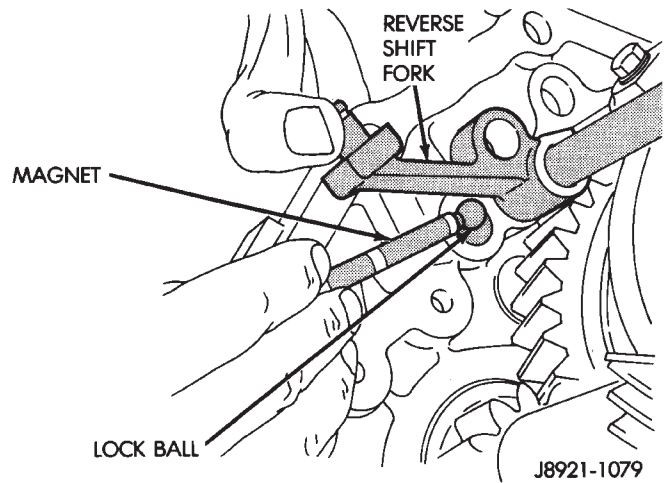

Fig. 89 Installing Reverse Shift Rail Lock Ball
(5) Coat reverse rail lock ball with petroleum jelly. Then tilt reverse shift fork upward and insert ball in intermediate plate (Fig. 89).